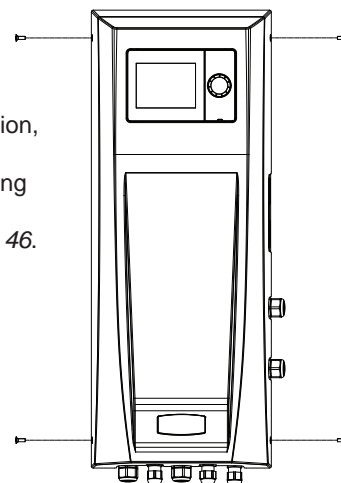

Figure 46. Front Panel Removal
- Remove Front Panel, refer to *Figure 46* and inspect all electrical connection for signs of damage / loose connections etc.
To allow for inspection, the casing must be removed by removing the four screws displayed in *Figure 46*.